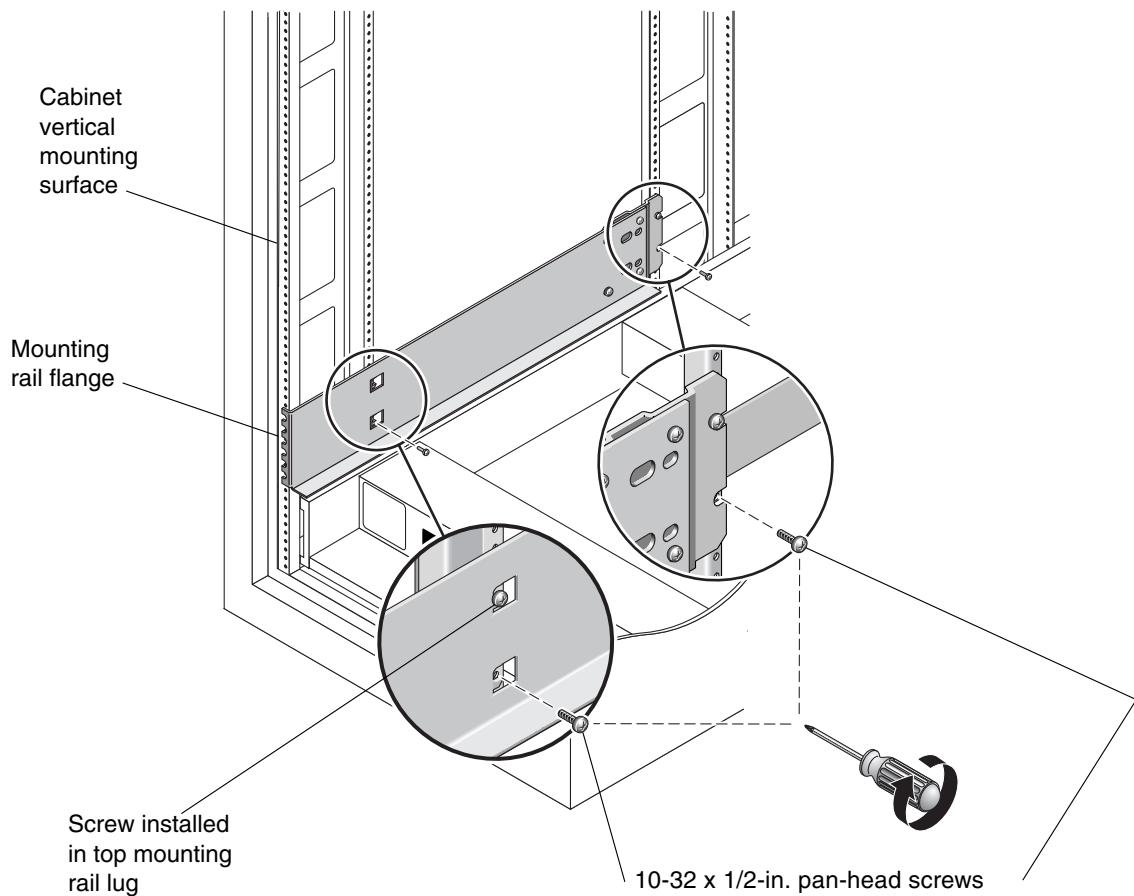

FIGURE 4-4 Positioning the Mounting Rail (One of Two) in the Cabinet
3. Place the mounting rail assembly as shown and slide the rail to fully engage the two screws in the mounting rail lug and the mounting rail bracket slot. See FIGURE 4-4.